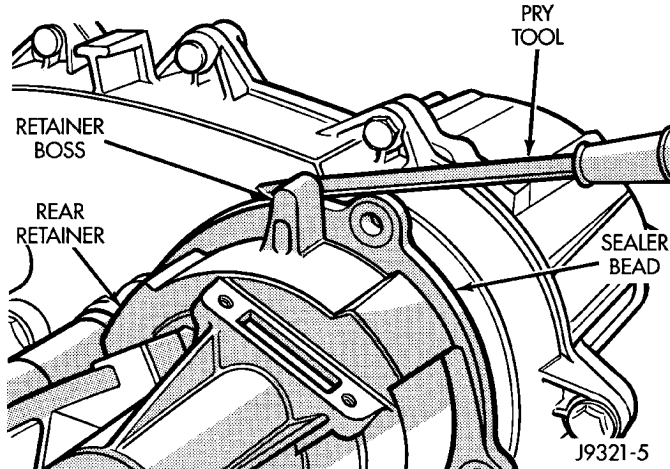

Fig. 14 Loosening Rear Retainer
(4) Loosen rear retainer with pry tool to break sealer bead. Pry only against retainer boss as shown (Fig. 14).
(5) Remove rear retainer as follows: